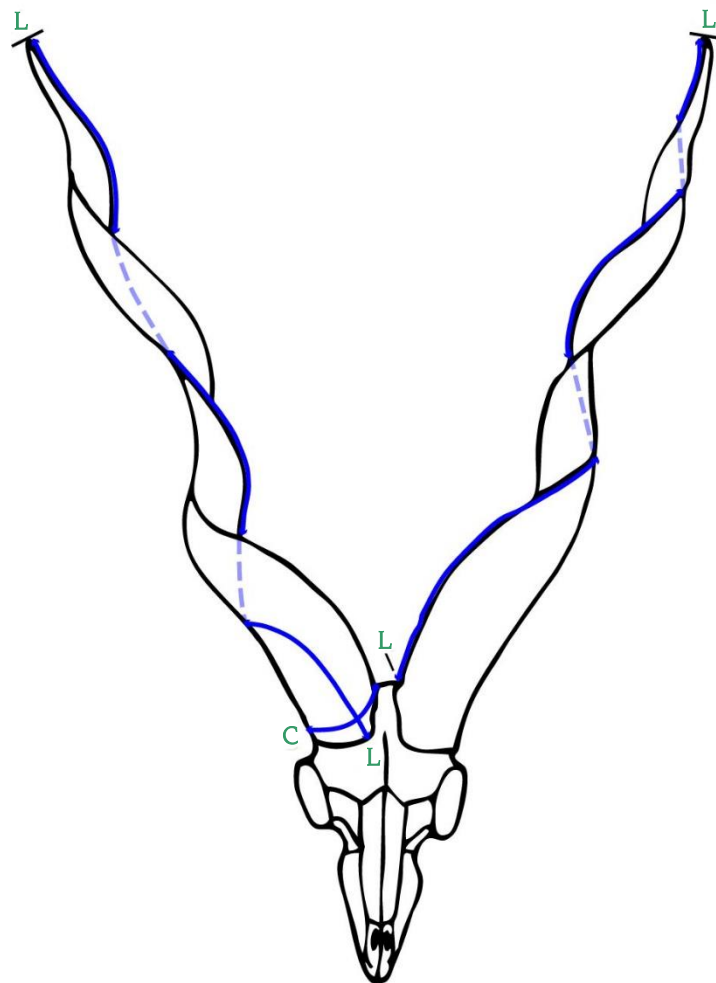

Figure 1 Medium-Curl Markhor
1. Length. Measure each horn around the spiral by keeping the tape on top of the spiral ridge. (Figure 1) Start at the lowest point at the front (or back) of the base and proceed to the tip. Where the spiral ridge ends near the tip, proceed in a straight line to the tip and do not continue to spiral.